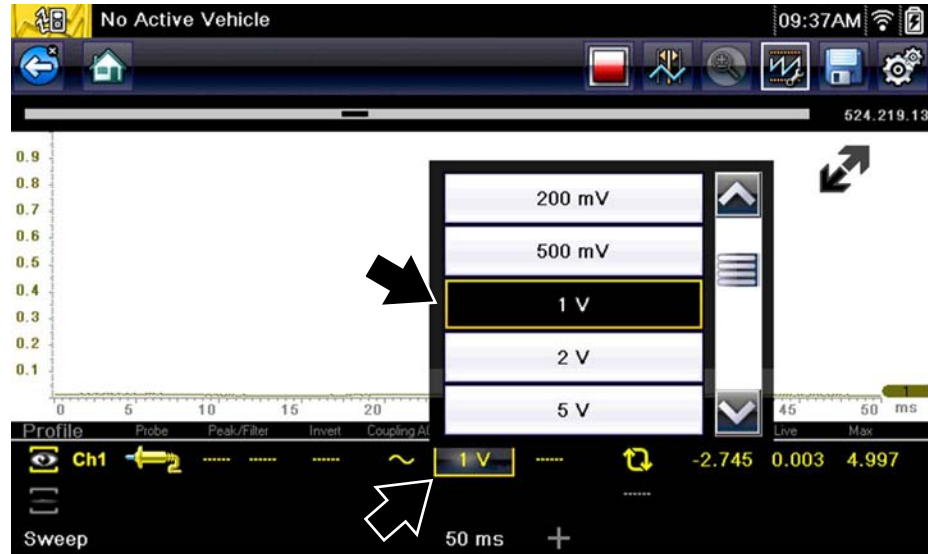

Figure 5-31
**Example (Figure 5-31):** If the vertical scale is set to 1V, the value displayed is 1V.